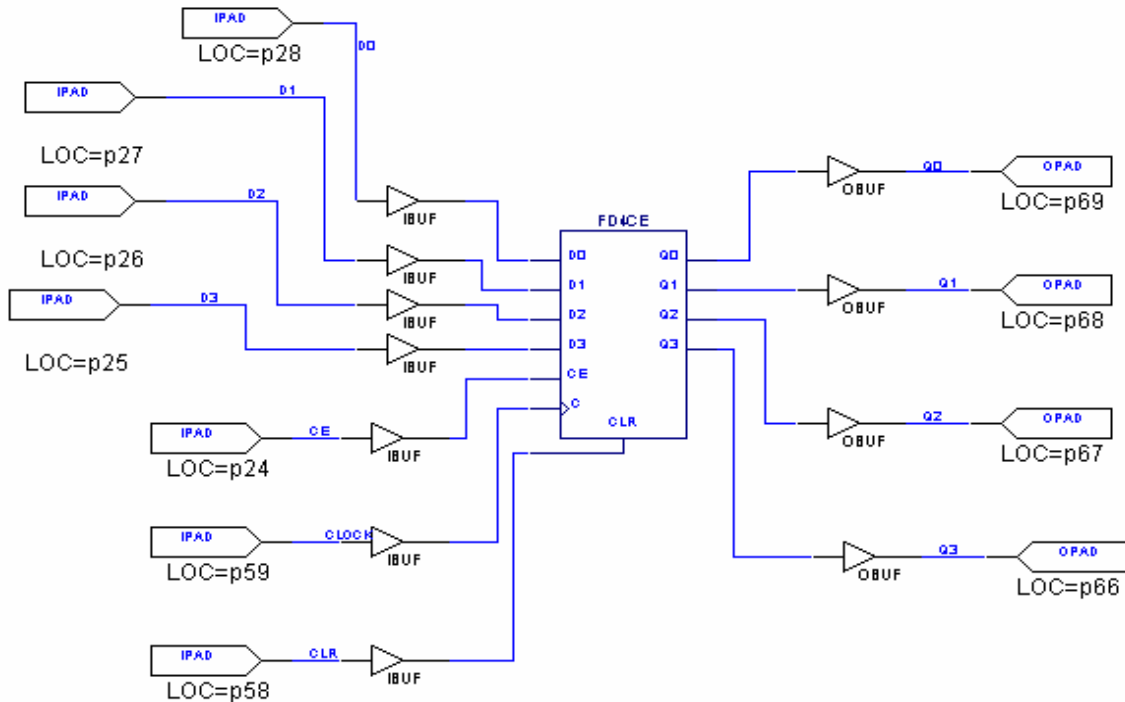

Figure 5.5
- FD4CE has an asynchronous Clear (CLR) input. Connect it to an input pad through an input buffer, and constraint it to a push button (BTN2) and similarly clock (C) input to another push button (BTN1) as shown in Figure 5.5.
- Connect Chip Enable (CE) to **SW5**.
- Connect the other inputs of multiplexers as shown in Figure 5.5